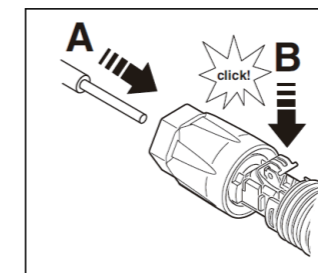

Figure 5-13
- 4) Carefully insert the stripped wire with twisted conductors all the way in (Figure 5-13, A). The litz wire ends have to be visible in the spring.
- 5) Close the spring. Make sure that the spring is snapped in (Figure 5-13, B).